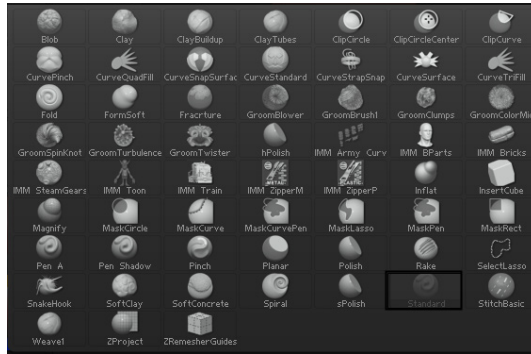
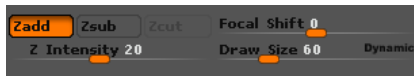

Figure 3-55 The **Standard** brush chosen from the flyout
Figure 3-56 Settings for the **Standard** brush for adding depth
10. Rotate the view of the canvas such that you can view the side view of *turtle shell*. Choose the Current Brush button from the left shelf; a flyout containing different sculpting brushes is displayed. Choose the **Standard** brush from this flyout if not already chosen, as shown in Figure 3-55. Make sure that the **Zadd** button is chosen in the top shelf. Set the value of **Z Intensity** slider to **20** and the value of **Draw Size** slider to **60**, as shown in Figure 3-56.